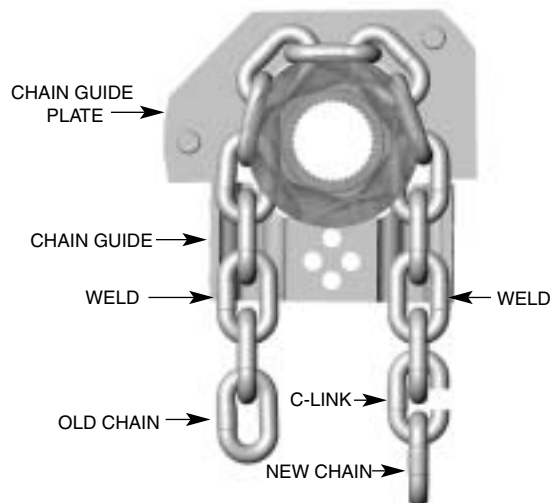

FIGURE 5-3. CHAINING HOIST
- e. Make a "C"-shaped chain link by grinding through one side of the end link of either the old or new chain. See Figure 5-3.
<ol style="list-style-type: none"> 1. Hoist overloaded. 2. Motor brake requires adjustment. 3. Worn overload limiting clutch. 4. Low voltage. 5. Faulty SINPAC starting switch or start capacitor (single phase hoists only). 	<ol style="list-style-type: none"> 1. Reduce load within rated capacity of hoist. 2. Check motor brake adjustment. See Figure 5-3. 3. Replace clutch. 4. Check voltage at hoist power cord with hoist starting. Voltage should be no less than 90% of voltage specified on hoist. 5. Replace faulty component.